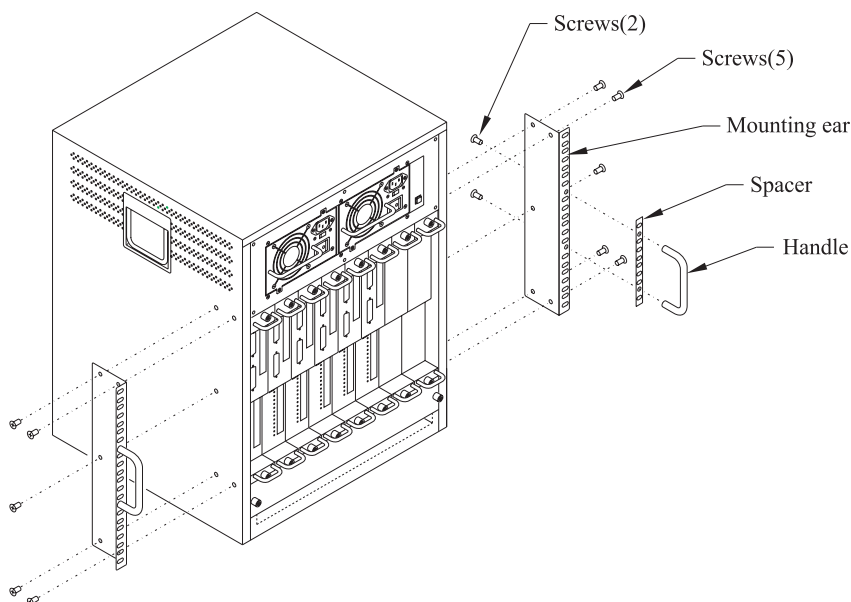
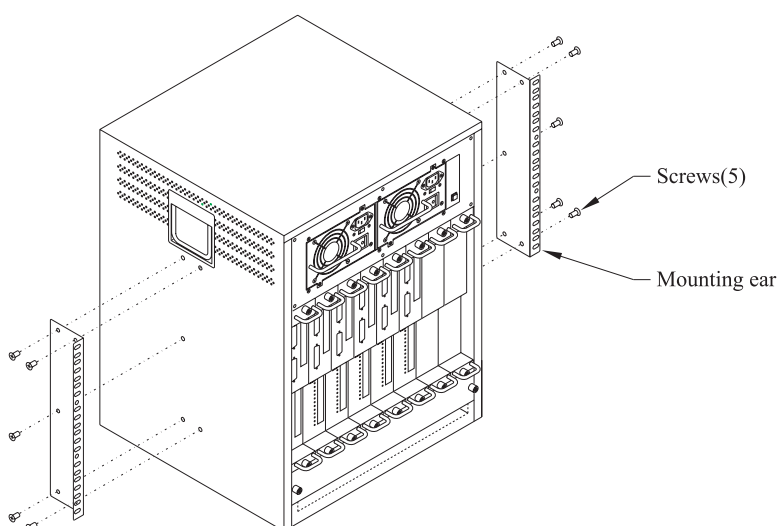

Figure 2. Installing Mounting Ears and Handles for a Standard Equipment Rack
Figure 2.1. Installing Mounting Ears for a Telco Rack
- Never attempt to move the server using the RIOP card handles or the filter cover opening. They will not support the weight of the device. Use the built-in side handles and either the large mounting handles, if you have installed them, or the very bottom of the chassis to move it (see Figures 2 and 2.1).
If you are not going to rack-mount the IntraPort Enterprise-8, it is recommended that you install the mounting ears and handles using the Standard Equipment Rack position (as shown in Figure 2).
1. Use the supplied screws and fasten the mounting ears to the sides of the device using 5 screws on each side as shown in Figure 2 (for a standard equipment rack) or in Figure 2.1 (for a Telco rack).
2. Use the supplied screws and fasten the handles and spacers to the center of the mounting ears as shown in Figure 2.